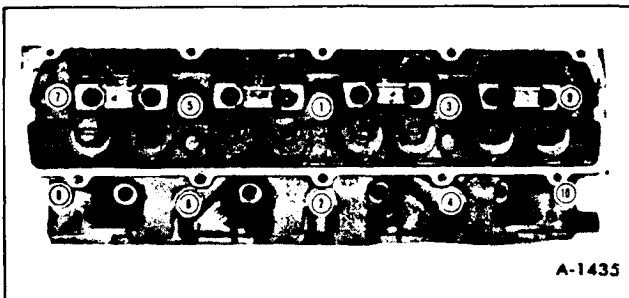

Figure 23—Cylinder Head Torque Sequence
3. Install cylinder head and torque bolts to 60 ft. lbs. in sequence as shown in Figure 23. Then re-torque in sequence to 85 ft. lbs.